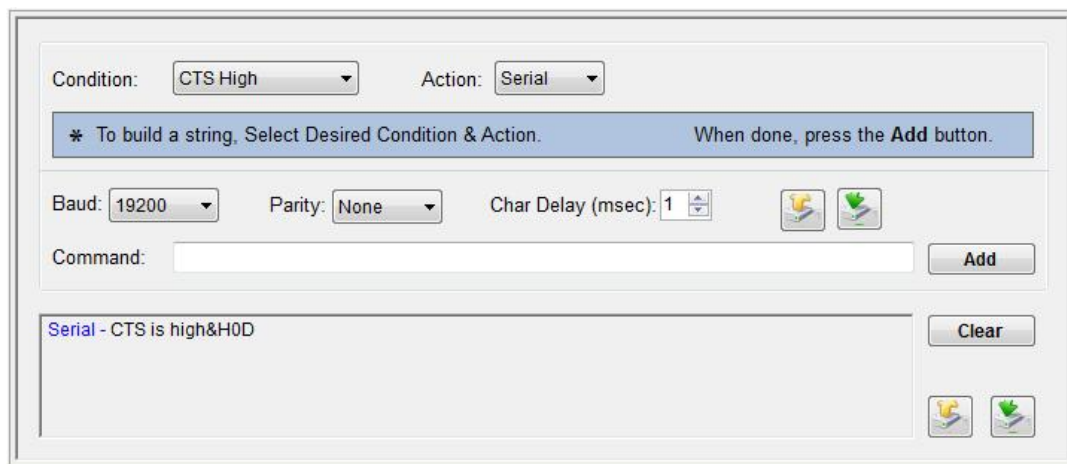

Figure 5 – Serial Commands
- Select the desired **Condition** and change **Action** to **Serial**. Commands are entered in the **Command** text box. When done, the user clicks the **Add** button to append the command as shown in Figure 5.